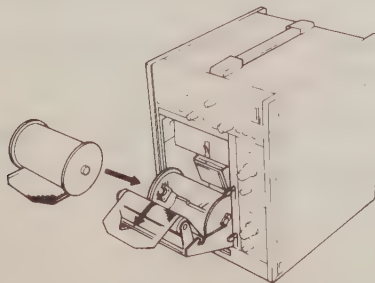

Fig. 2-3
- 4 Insert the chart paper with its two bobbins into the bobbin holders of the recorder stock section (see Fig. 2-3).
- 8 Pass the chart paper to the chart paper window A at the bottom of the writing panel (see Fig. 2-3).